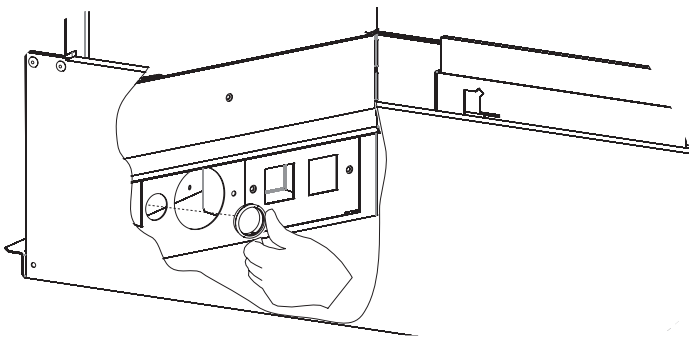

Figure 42
4. Install a plastic bushing in both the liner and outer walls of the fireplace. See Figure 42.